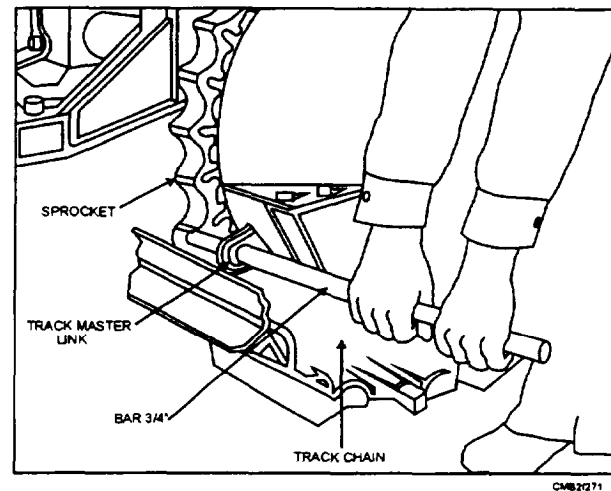

Figure 6-30.—Pulling track over sprocket.
**REPLACING TRACKS.**—To replace the tracks, back the tractor off the plank and onto the new tracks so the drive sprocket properly meshes with the track rail. Continue backing until the tractor is just ahead of the rear end of the track. Then place a bar in the track (fig. 6-30), and help the track climb over the sprocket, carrier rollers, and idler as the tractor is driven forward. When the track comes together, install the master pin and any locking device. Once the track is together, adjust the track tension using the manufacturer's recommended procedures.